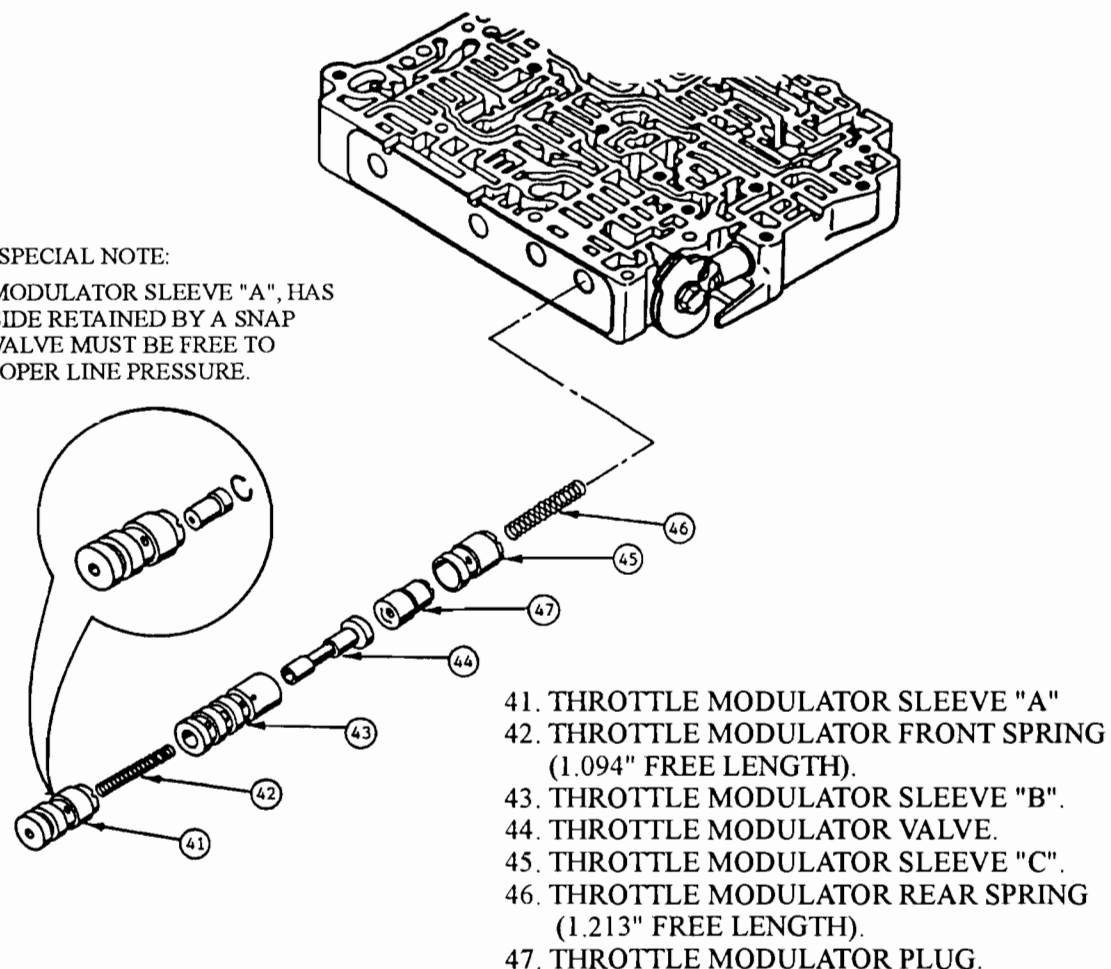

Figure 35
**COMPLAINT:** Some MAZDA 323 models equipped with the G4A-HL transaxle may exhibit a slipping condition with selector lever in the Drive (D) position, all shifts will be soft and/or slipping, and if line pressure has been checked, line pressure will be low.
**CORRECTION:** Install the Throttle Modulator Valve Line-up into the valve body as shown in Figure 35. Install throttle modulator sleeve "C", throttle modulator rear spring, throttle modulator plug, throttle modulator valve and throttle modulator sleeve "B", throttle modulator front spring, throttle modulator sleeve "A", and the retaining pin, as shown in Figure 35.